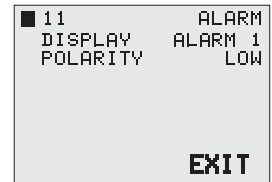

Figure 29: Alarm calibration screen
2. Press **ENTER** to edit the input function and use the **NAV** keys enable the **ALARM**, as shown in Figure 29.
The Jackal can monitor up to 6 shafts, displayed as shown in Figure 29. Shaft **RPM** is displayed in order of input number.